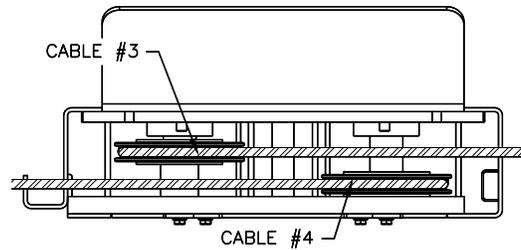

Fig 10 – Power Runway (Front View)
- 14) At the front of the power runway continue routing cable #3 around the sheave and out the front drivers side cross beam. Cable #4 should be routed around the sheave & out to the passenger side front cross beam, **Fig 10**.